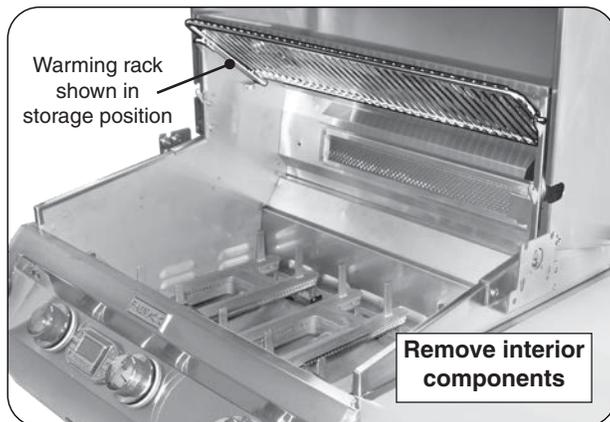

Fig. 33-1 Prepare grill for rotissing
1. Set the warming rack to storage position, remove the backburner cover and cooking grids (see Fig. 33-1).